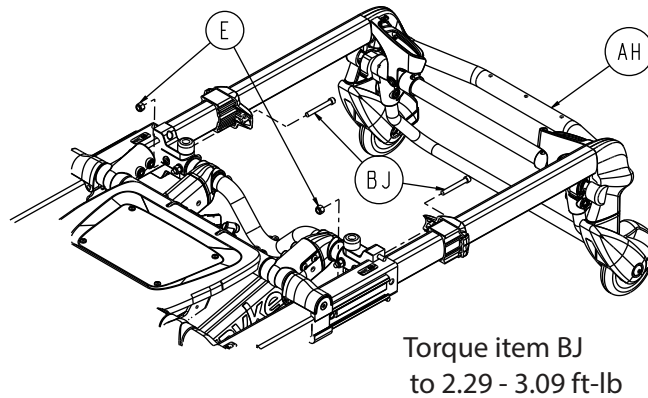

Figure 16 – Head section components
3. Using a 7/16" combination wrench and a 3/16" hex wrench, remove the two socket head cap screws (BJ) and Fiberlock hex nuts (E) that secure the cap bearings to the base litter interface bracket (one on each side) (Figure 16). Save the screws and nuts.
4. Squeeze the head section release handles and remove the head section assembly (AH) (Figure 16).